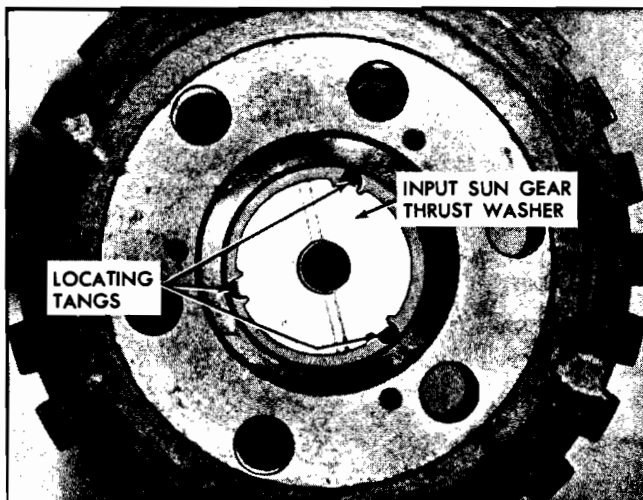

Fig. 7F-65 Input Sun Gear Thrust Washer
1. Install Bushing Remover J 9534 into bushing. Install slide hammer into J 9534 and remove bushing (Fig. 7F-66).
2. Using Installer J 21424-3 and Handle J 8092, press new bushing into output shaft until installer touches machined surface of carrier assembly (Fig. 7F-67).